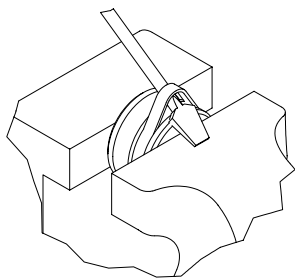

Figure 4-10, Piston Seal
7. Carefully pry up on the piston seals using a blunt tip screw driver being careful not to scratch the seal grooves. Cut the seals to remove from the piston. (Figure 4-10)